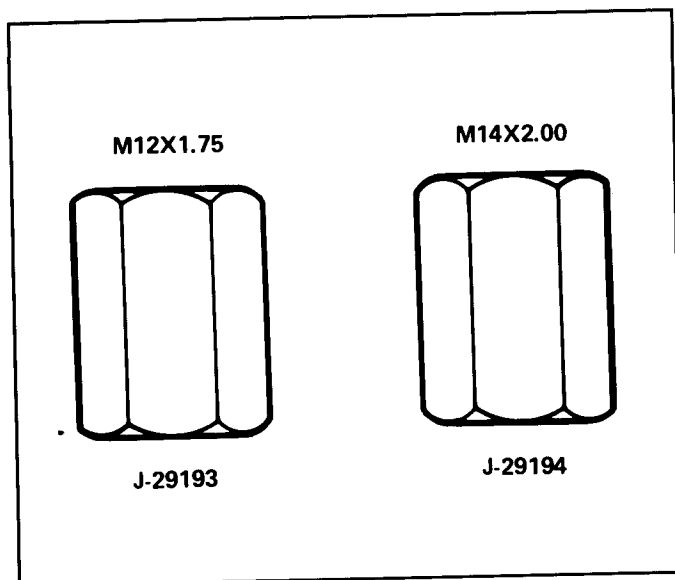

Fig. 3B6-6--Special Tools Used to Seat the Tapers
1. Install relay rod to idler arm, making certain idler stud seal is in place. Use J-29193 or J-29194 as shown in Fig. 3B6-6 to seat the tapers. A torque of 20 N·m is required. With the tapers seated, remove the tool, then install a prevailing torque nut, and tighten to 48 N·m (35 ft. lbs.).
2. Raise end of rod and install on pitman arm. Use J-29193 or J-29194 as shown in Fig. 3B6-6 to seat the tapers. A torque of 20 N·m is required. With the tapers seated, remove the tool, then install a prevailing torque nut, and tighten to 48 N·m (35 ft. lbs.).